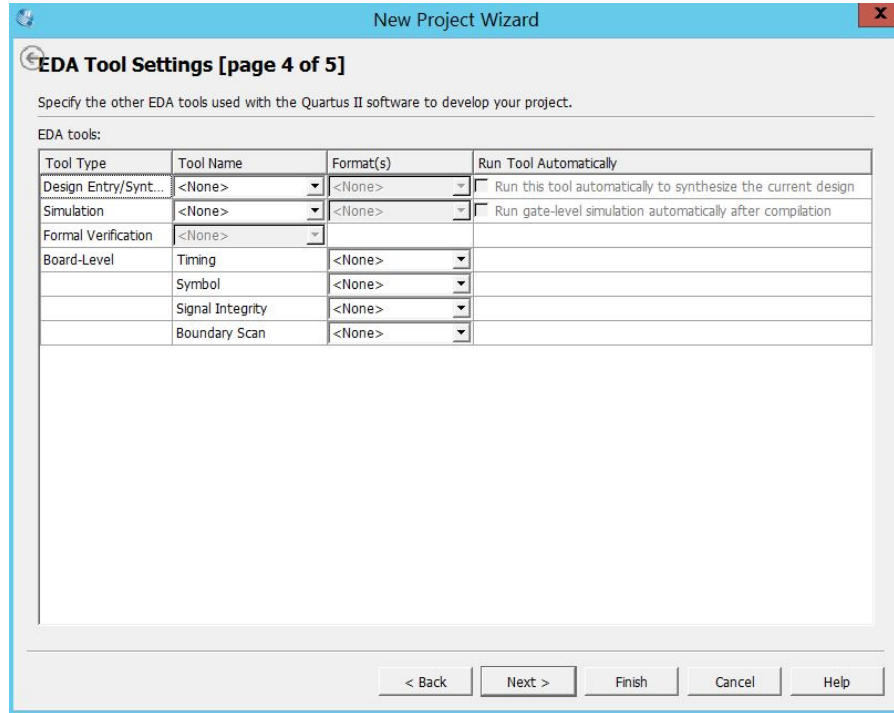

Figure 9. Other EDA tools can be specified.
4. We have to specify the type of device in which the designed circuit will be implemented. Choose Cyclone™ II as the target device family. We can let Quartus II software select a specific device in the family, or we can choose the device explicitly. We will take the latter approach. From the list of available devices, choose the device called 5CEBA4F23C7 which is the FPGA used on Altera’s DE2 board. Press Next, which opens the window in Figure 9.